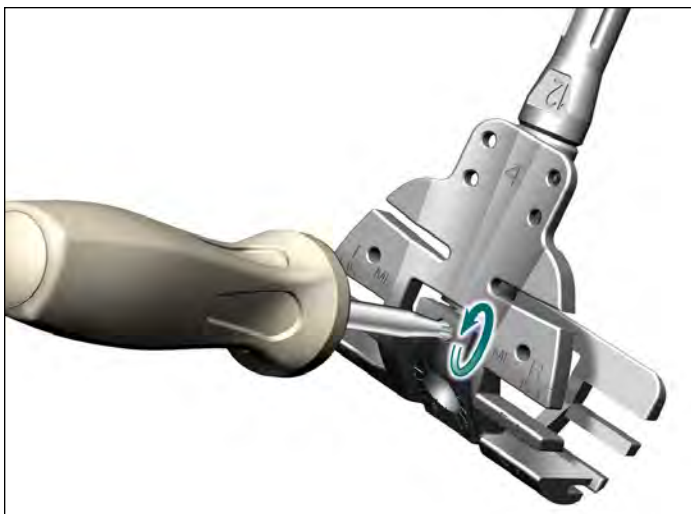

Figure 56
- First, assemble the trial stem to the neutral Offset Adapter and then assemble the neutral Offset Adapter into the Trial Cutting Guide housing. Secure the anterior screw to lock the Offset Adapter into the Cutting Guide housing with the Torx screwdriver (Figure 56).
Repeat of Figure 56